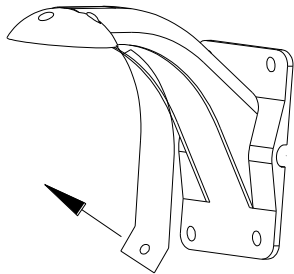

Figure 9
6. Take out the cover of the wall-mounting bracket (see Figure 9).